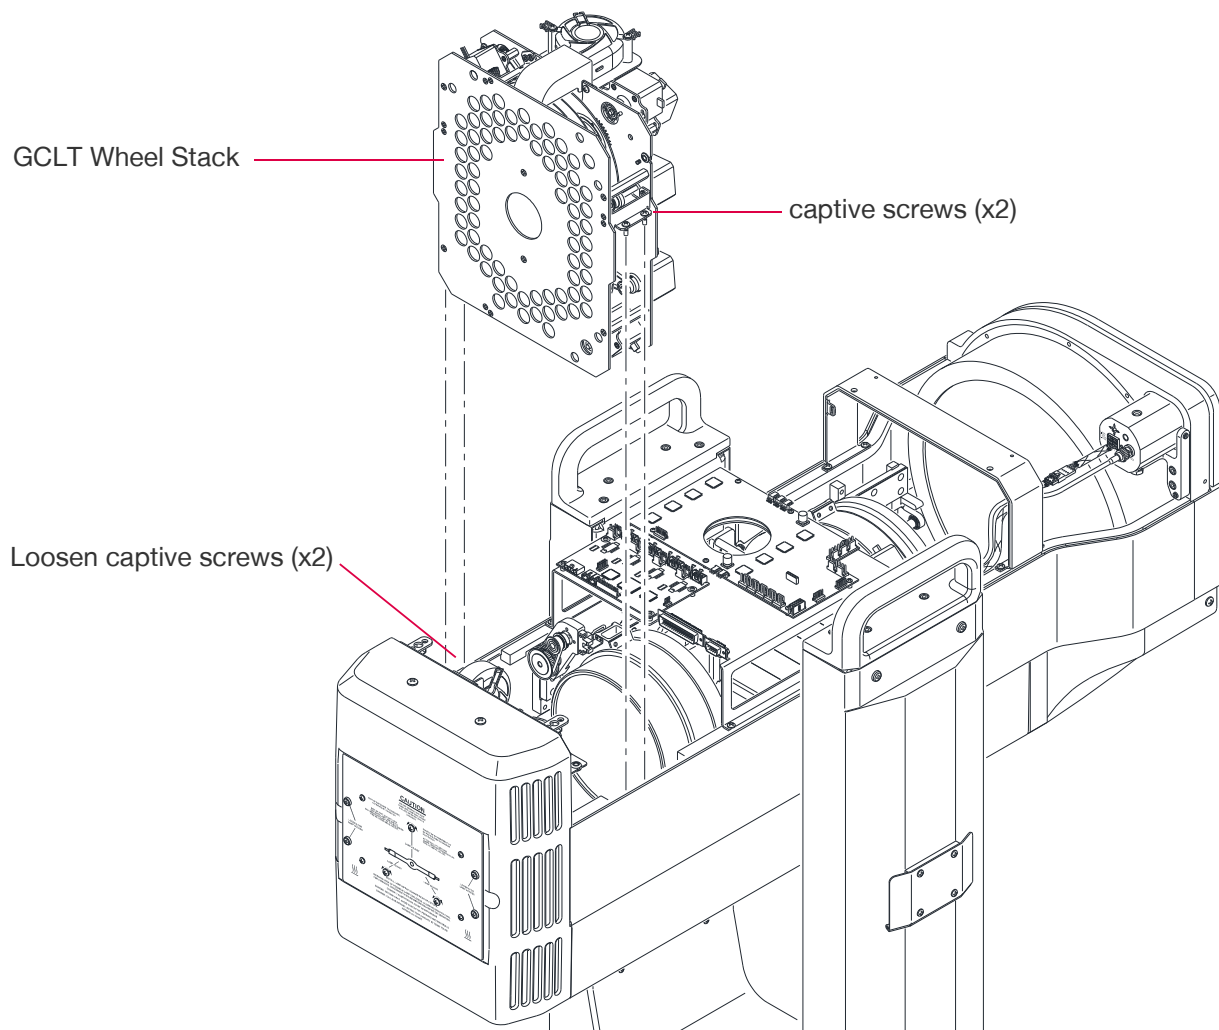

Figure 3-15: Removing the GCLT Wheel Stack
- Step 6. Loosen captive screws at Wheel Stack, two per side. **(Figure 3-15)**